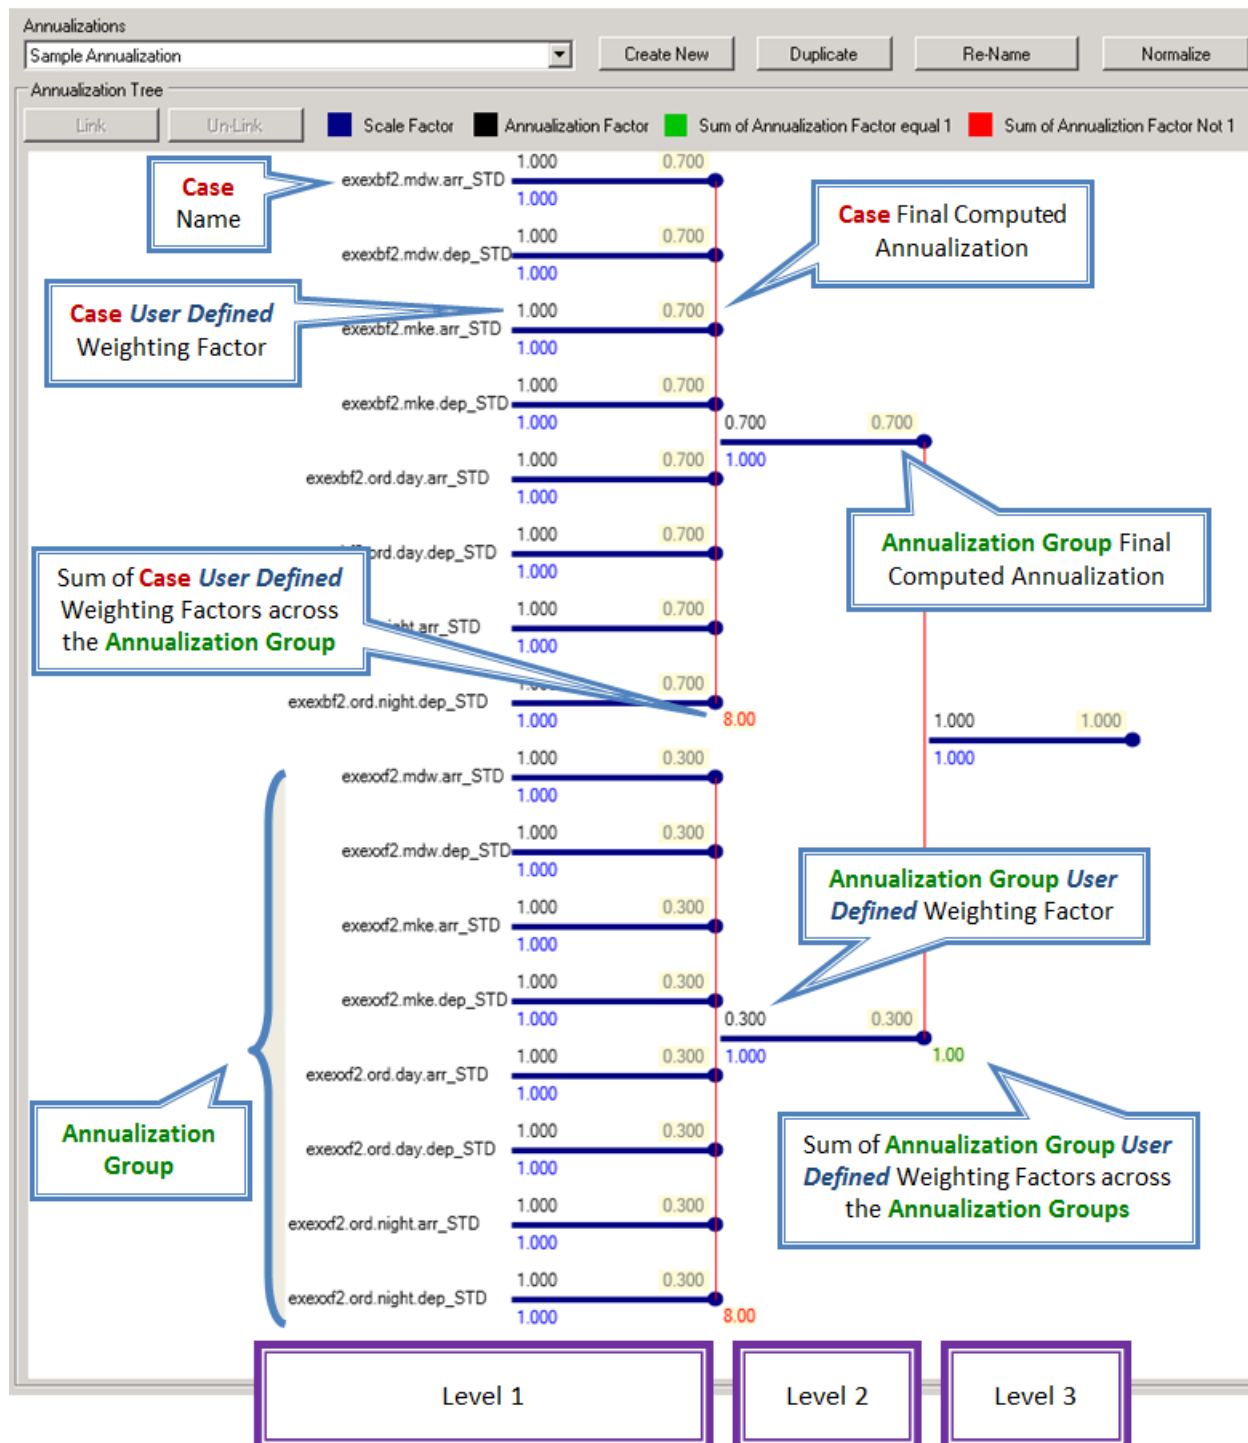

Figure 6-1 Annualization Tree
Figure 6-1 displays an example of an annualization tree, with a description provided below:
- Example 1: If the area of interest is the first case listed in level 1 in Figure 6-1, the black value in level 3 (1.000) is multiplied by the black value in the top annualization group that contains the first case in level 2 (0.700), and finally is multiplied by the black value corresponding to the first case in *Level 1* (1.000). By this calculation, the green value for the first case is 0.700.
- Example 2: If the area of interest is the bottom annualization group listed in level 2 in Figure 6-1, the black value in level 3 (1.000) is multiplied by the black value in the bottom annualization group in level 2 (0.300). By this calculation, the green value for the bottom annualization group is 0.300.
- The right-most section of the annualization tree shows the top-most level, Level 3, containing the all of the annualization information in the tree and is given a weighting factor of 1.0, in Figure 6-1. To double the entire annualization, a weighting factor of 2.0 should be used instead of 1.0 (Level 3 in Figure 6-1).